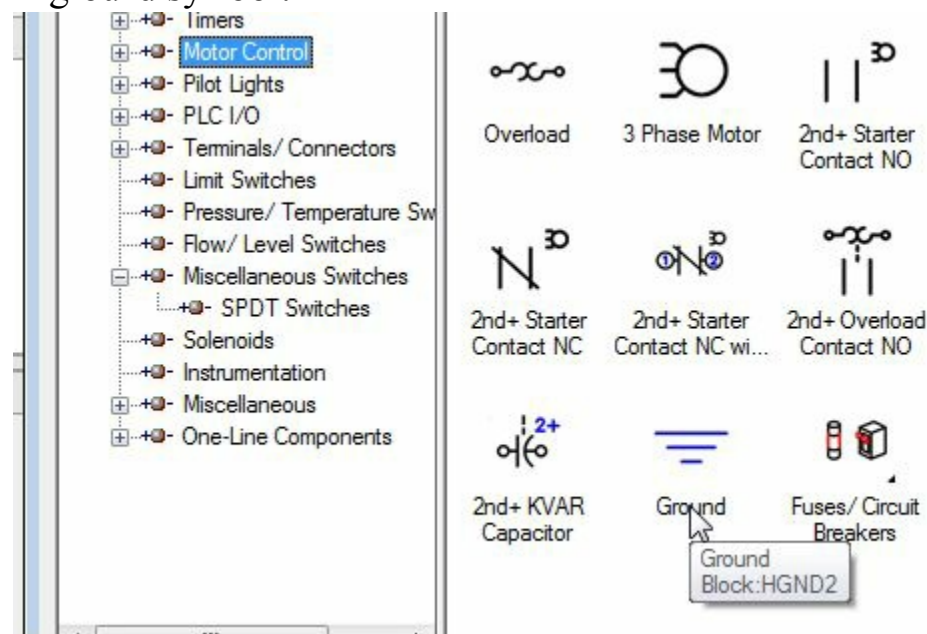

Figure-72. Ground symbol
- Select the **Motor Control** category from the **Menu** area and click on the **Ground** symbol from the right area of the dialog box; refer to Figure-72. You are prompted to specify the location of the ground symbol.